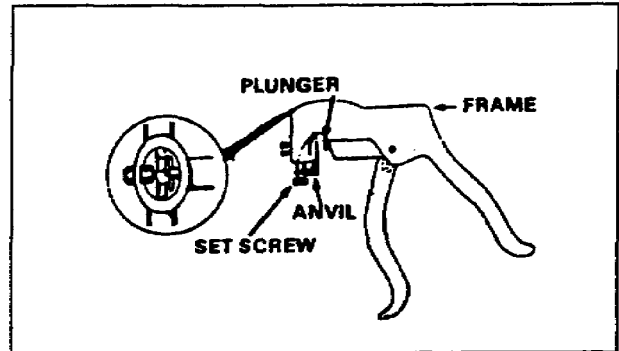

Figure 2-13. Saw set
(2) Setting. After the teeth are made even by jointing, they must be set. This means that every tooth will be bent a little to give the blade sufficient clearance. For a handsaw, the set should be half the thickness of the blade. This rule applies to both crosscut saws and rip saws. When using a saw set (Figure 2-13), bend every other tooth (halfway from the point), starting at either end of the saw. Do not attempt to hurry this operation; it takes skill and practice to do it properly.